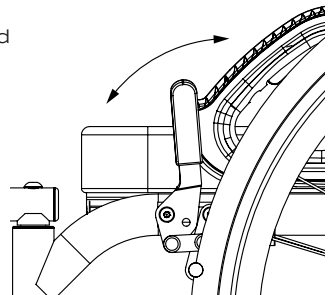

Fig. 3
- To engage the locks (Fig 3), push wheel lock handle forward (for push-to-lock type) or pull wheel lock backward (for pull-to-lock type) until the lock is fully engaged.